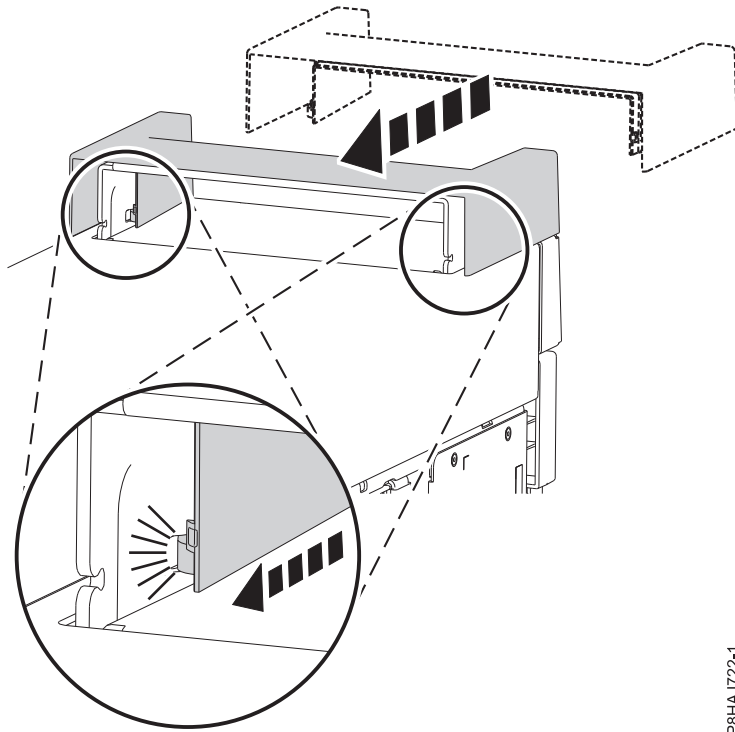

Figure 31. Securing the handle cover in an 8286-41A stand-alone system
1. Secure the handle cover to the internal RDX docking station (FC EUA3) by sliding it toward the rear of the system. See Figure 31.